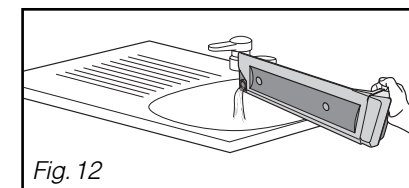

Fig. 12
The condensation container must be emptied after each drying cycle (Fig.12).
– Empty the container (Fig. 12).